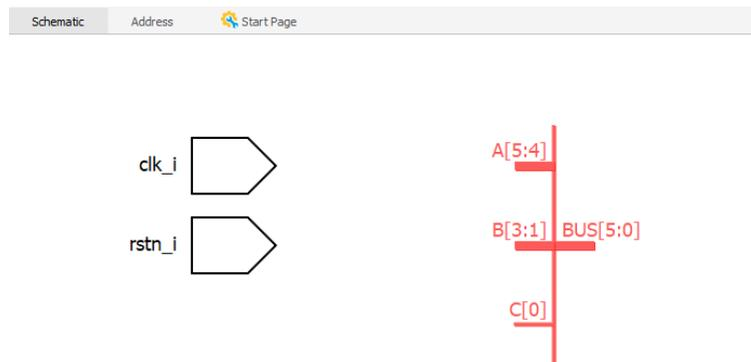

Figure 2.22. Schematic View Shows a Concat Module
- c. Click **OK**. The schematic block for the concat module in red appears in the Schematic view (Figure 2.22).